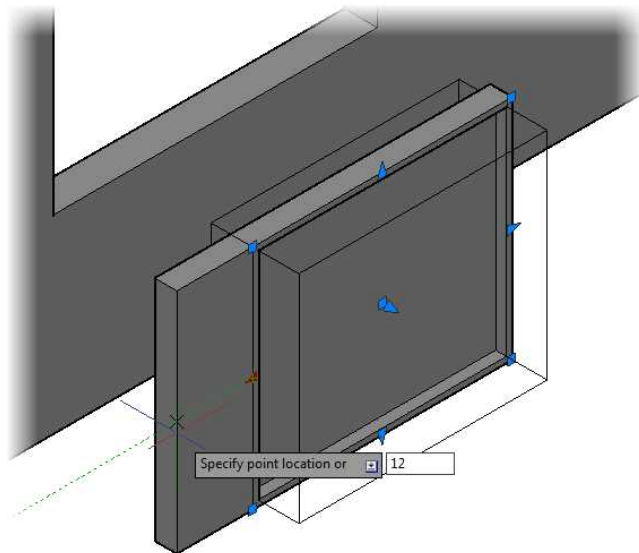

FIGURE 16.37: Adjusting the size of the window frame
6. Enter **12↵ (305↵)** to stretch the box 12" (305 mm) in the X direction, as shown in Figure 16.37.